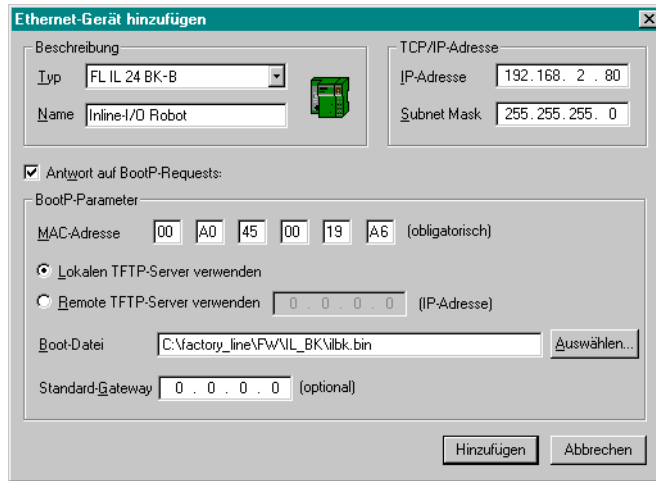

Figure 2-1 Add New Ethernet Device dialog box in the Factory Manager
- Enter the relevant data in the Add New Ethernet Device dialog box (see Figure 2-1).
If the device is being started for the first time, it is then automatically booted with the specified configuration. If the device is not being started for the first time, save the configuration and restart the device (power up). The device now sends another BootP request and receives the specified IP parameters from the BootP server/Factory Manager (see Figure 2-1, message highlighted in gray).